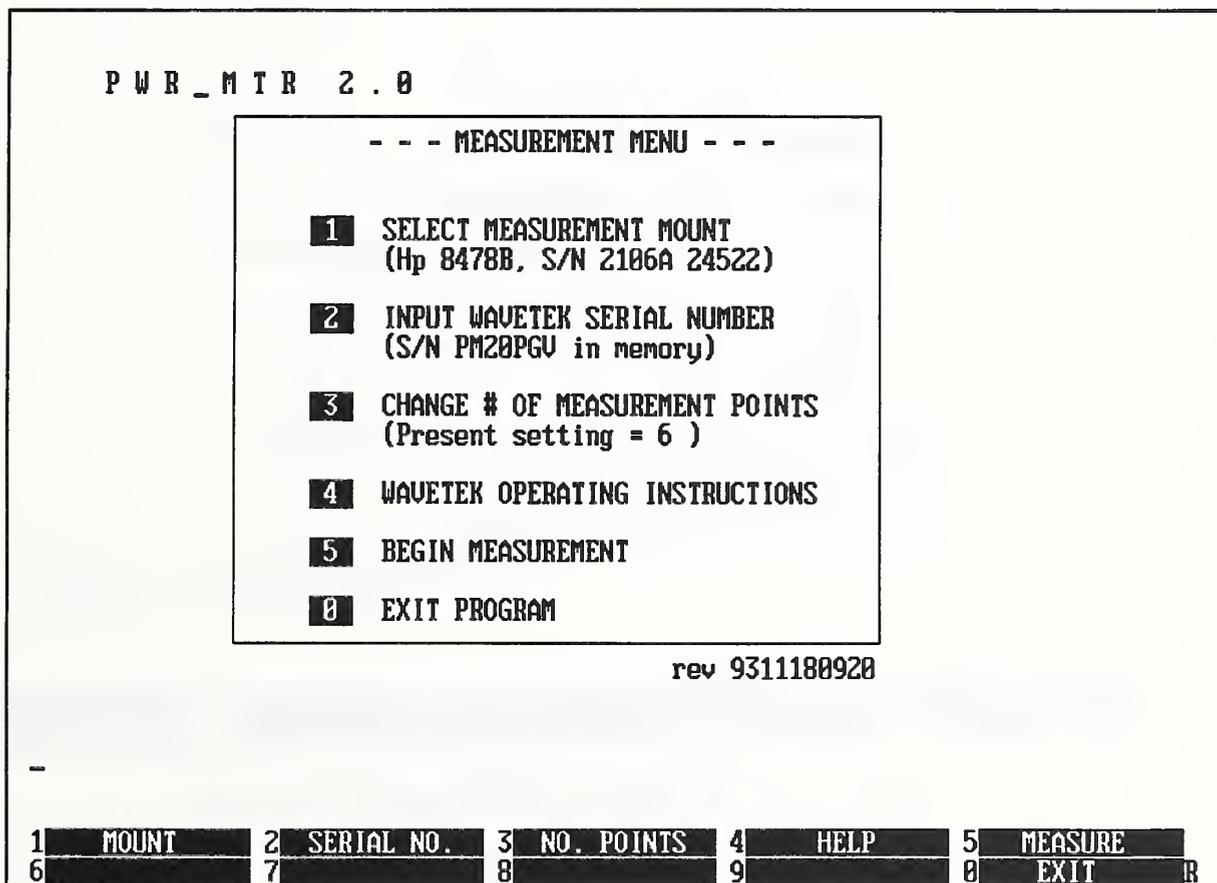
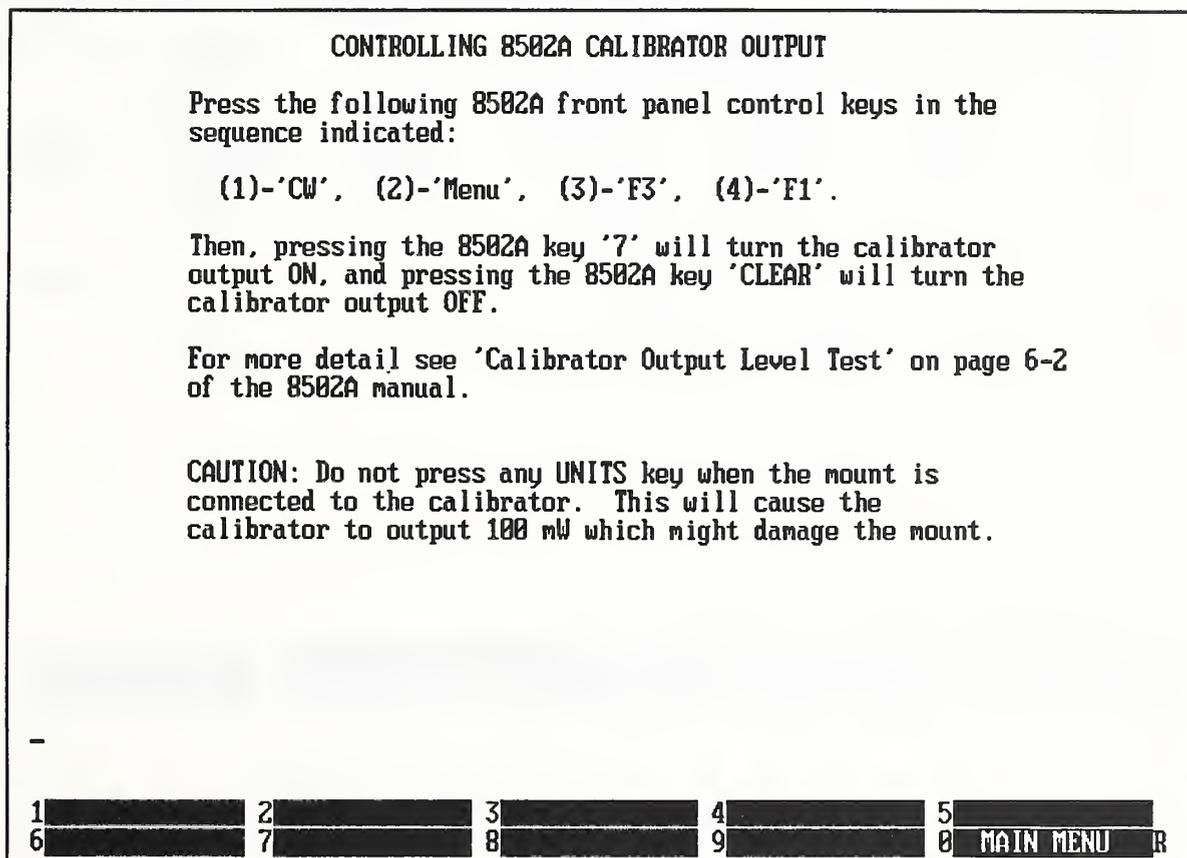
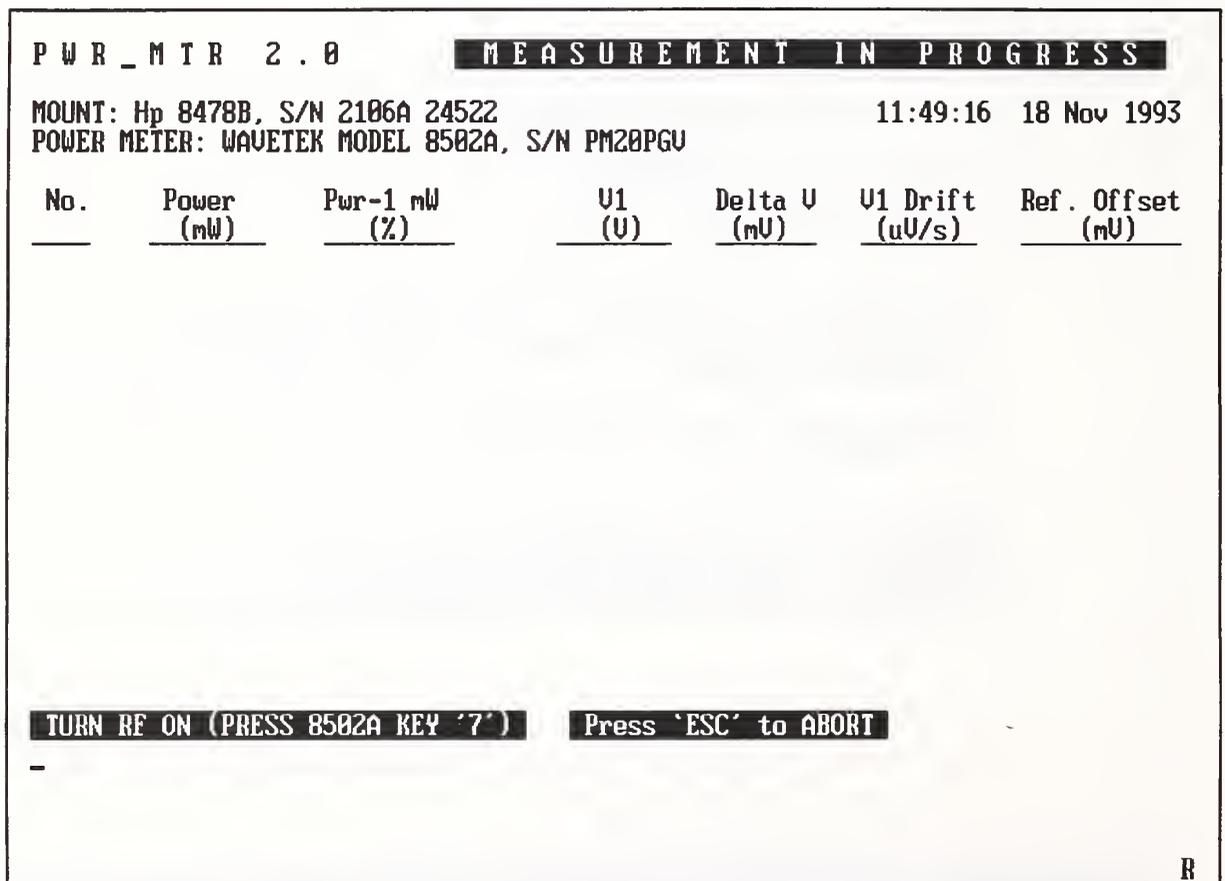

Figure 2.1. Screen display of the measurement menu.
Figure 2.7. Screen display of operating instructions for the calibrator output.
Figure 2.8. Screen display at the start of the measurement.
The remainder of this section describes the various software options that are available. The screens and menus as seen on the CRT are shown in figures 2.1 through 2.9. Numbered soft keys, corresponding to the keyboard function keys, are along the bottom of the menus. For quick reference, a menu tree is shown in appendix A.
The first screen displayed by the program is shown in figure 2.1. Additional detail on each item is in later sections of this chapter.
Pressing F2 in the Measurement Menu (figure 2.1) will let you input the serial number of the Wavetek power meter being calibrated. The serial number will then be printed on the measurement report as part of the permanent record.
Pressing F3 in the Measurement Menu (figure 2.1) will let you change the number of repeated measurements made during the calibration. No less than the default six measurements should be made; more than six will slightly reduce the total uncertainty because of a smaller standard uncertainty with additional repeat measurements.
Pressing F4 in the Measurement Menu (figure 2.1) results in the screen that appears in figure 2.7. It gives brief instructions for manually controlling the 8502A calibrator output based on information given in the instrument's operating manual. The four numbered steps shown on the screen should be carried out before proceeding with the measurement. Press F10 to return to the main menu.
Pressing F5 in the Measurement Menu (figure 2.1) leads to the screen that appears in figure 2.8. (Before starting the measurement, check the mount serial number to be sure the mount in use is the one shown on the screen.) Just before the message TURN RF ON (PRESS 8502A KEY '7') is displayed, the computer will beep once. At that point press key 7 on the 8502A to turn the rf on and wait for a pair of beeps from the computer. The message will change to TURN RF OFF (PRESS 8502A 'CLEAR'). After pressing the CLEAR key on the 8502A, wait until a single beep sounds again before pressing key 7 to begin the next measurement in the set. This sequence will be automatically repeated until all the measurements making up the set have been completed. As indicated, the measurement series can be aborted by pressing the ESCAPE key.